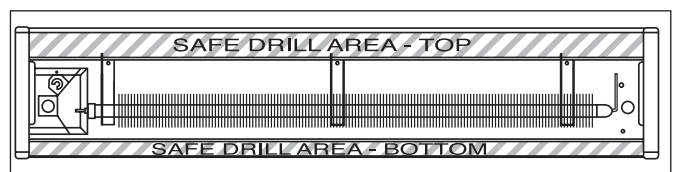
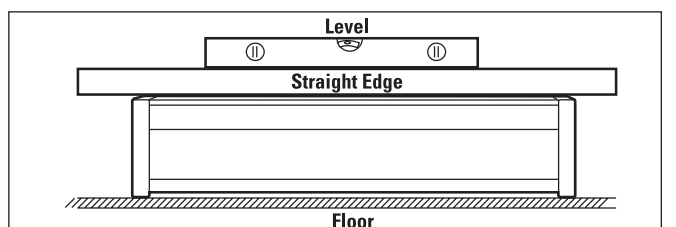

Figure 6
Figure 7
7. Position the heater and fasten one end of heater to wall stud with screw (not included) in safe drill area as shown in Figure 6. Before fastening to wall stud at other end, place a level across top of heater and make sure heater is level. (Figure 7).